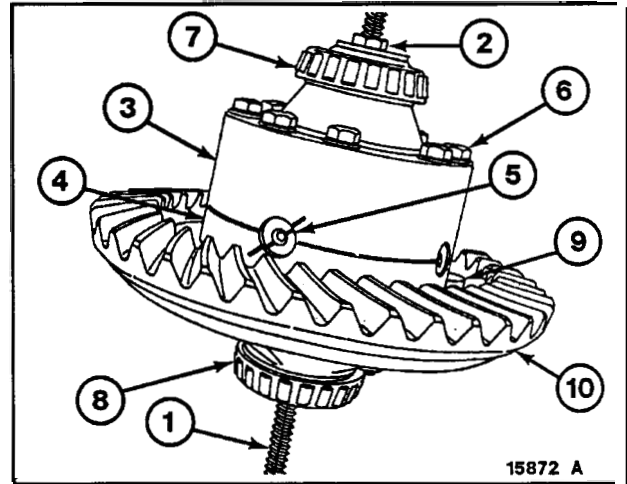

Figure 109
17. Insert a 3/8" Dia. threaded rod 18" Long (1, Figure 109) through differential assembly. Install a 3" O.D. washer on each end of threaded rod with appropriate hex nuts (2). Tighten hex nuts and washers against differential case halves (3 and 4). This rod will retain spring pressure exerted by No-Spin springs.
18. Match mark flanged case half (4), differential spider (5), and plain case half (3) as shown with a diagonal match mark. This style of match mark will ensure that differential is properly reassembled.
19. Remove bolts and plain washers (6) holding case halves together.
22. Using a suitable puller remove bearing cones (7 and 8, Figure 109) from differential assembly halves.
23. Remove hex nuts, ring gear bolts (9) and ring gear (10) from flanged case half.